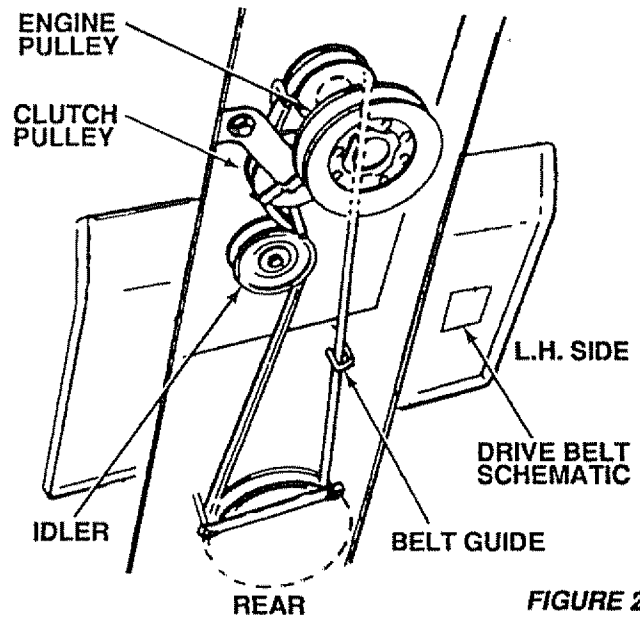

FIGURE 28
- Roll belt over engine pulley and off idler (Fig. 28).
- Reset parking brake. Pull belt over top of clutch pulley (Fig. 28).